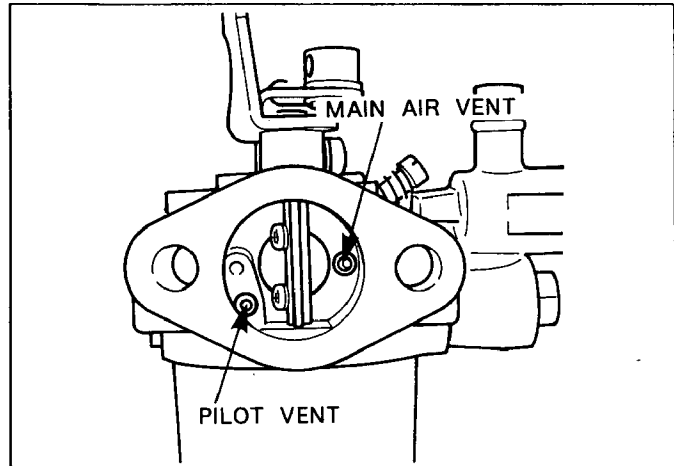

Fig. 30
- (1) Remove pilot screw from body.
- (2) Clean pilot screw and vent of screw by blowing compressed air.
- (3) Clean pilot vent in kerosene and blow compressed air. (See Fig. 30.)
- (4) Reset pilot screw at $1\frac{1}{2}$ turns from full closed position.
- (1) Remove float chamber from body.
- (2) Remove main jet from body.
- (3) Clean main jet in kerosene.
- (4) Clean main nozzle in kerosene and blow compressed air.
- (5) Clean main air vent in kerosene and blow compressed air. (See Fig. 30.)
- (6) Attach float chamber to body.